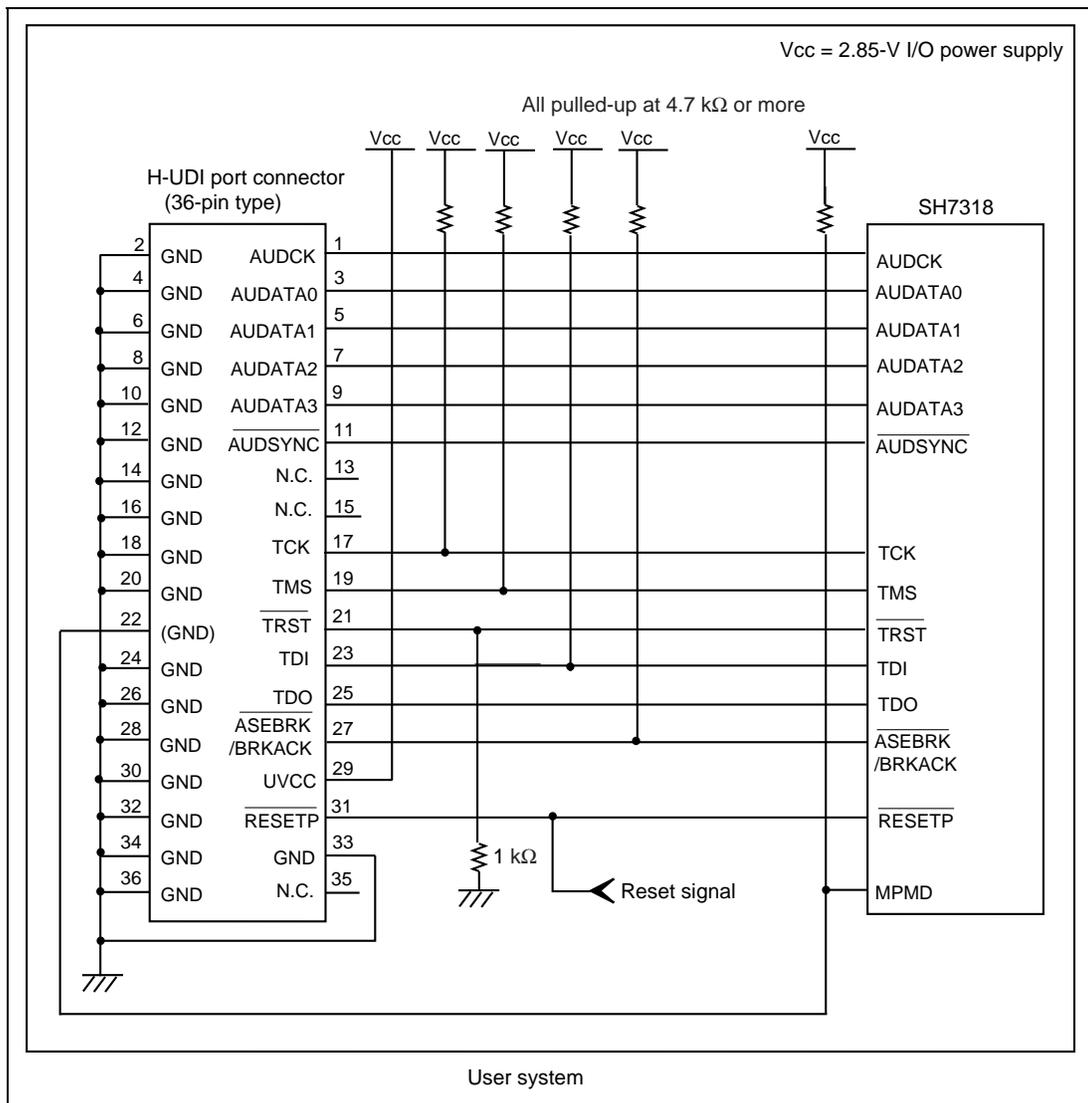

Figure 1.3 Recommended Circuit for Connection between the H-UDI Port Connector and MPU when the Emulator is in Use (36-Pin Type)
Figure 1.3 shows a recommended circuit for connection between the H-UDI and AUD port connectors (36 pins) and the MPU when the emulator is in use.
- (1) When the emulator is used: $MPMD = 0$ (ASE mode)
- (2) When the emulator is not used: $MPMD = 1$ (normal mode)Figures 1.3 shows an examples of circuits that allow the MPMD pin to be GND (0) whenever the emulator is connected by using the user system interface cable.
7. The resistance values shown in figure 1.3 are reference.
When the circuit is connected as shown in figure 1.3, the switches of the emulator are set as SW2 = 1 and SW3 = 1. For details, refer to section 3.8, Setting the DIP Switches, in the Debugger Part of the SuperH™ Family E10A-USB Emulator User's Manual.
- (1) When the emulator is used: MPMD = 0 (ASE mode)
- (2) When the emulator is not used: MPMD = 1 (normal mode)Figure 1.3 shows an examples of circuits that allow the MPMD pin to be GND (0) whenever the emulator is connected by using the user system interface cable.